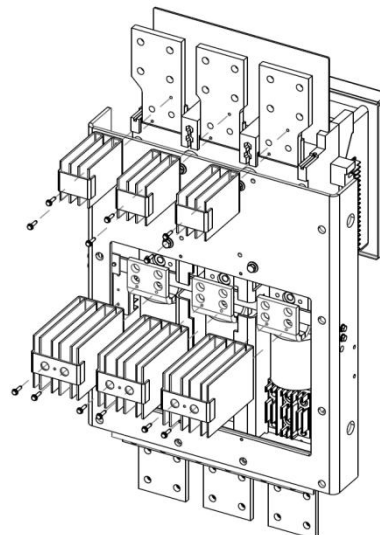

FIG.3 2000A TOP FEED SWITCH
2. HOLD THE FOUR-FIN HEAT SINKS IN PLACE ON THE LINE TERMINALS AND START SCREWS AS SHOWN IN FIG.3. TIGHTEN ALL SCREWS 30 IN-LBS.